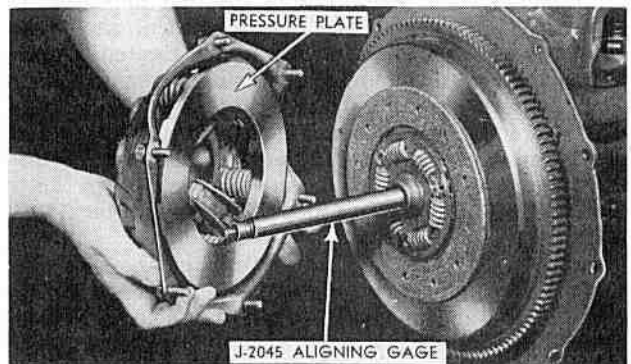

FIG. 76
**CHAMPION (Engine Removed) AND COMMANDER (Engine in Chassis)** To replace the clutch assembly, use the Clutch Aligning Gage J-2045. Insert and centralize the gage in the pilot bearing and tighten it firmly. Slip the clutch driven plate, which should always be installed with the long end of the hub away from the flywheel, over the aligning gage and fit it tightly against the flywheel. To prevent pressure plate distortion during installation, place a  $3/8$ " (9,525 mm.) wooden block between each release lever and the rim of the clutch cover. Install the clutch assembly on the flywheel and tighten the cover retaining screws securely. Tighten the cover retaining screws to 13-15 foot-pounds (1,8-2,1 kilogram-meters) torque. Tightening each cap screw one or two turns at a time avoids cover distortion. (See Fig. 76.)